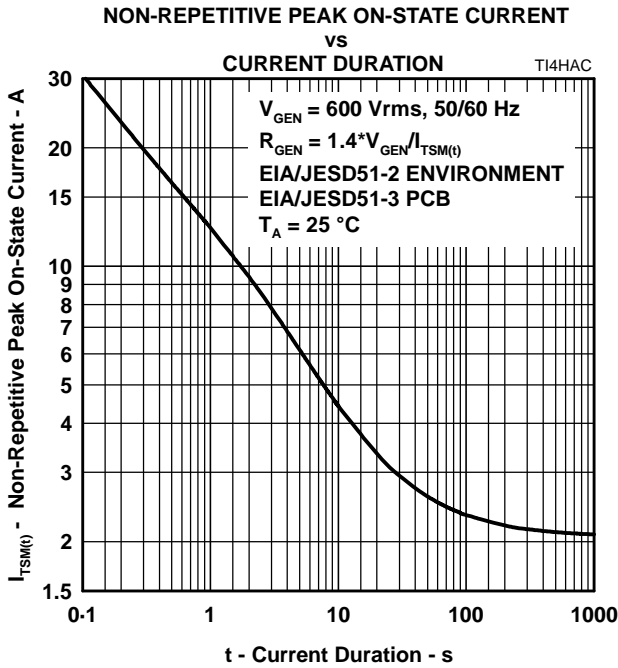

Figure 8.
5. EIA/JESD51-2 environment and EIA/JESD51-3 PCB with standard footprint dimensions connected with 5 A rated printed wiring track widths. See Figure 8 for the current ratings at other durations. Derate current values at $-0.61\text{ \%/}^{\circ}\text{C}$ for ambient temperatures above 25 °C .
The protector can withstand currents applied for times not exceeding those shown in Figure 8. Currents that exceed these times must be terminated or reduced to avoid protector failure. Fuses, PTC (Positive Temperature Coefficient) resistors and fusible resistors are overcurrent protection devices which can be used to reduce the current flow. Protective fuses may range from a few hundred milliamperes to one ampere. In some cases, it may be necessary to add some extra series resistance to prevent the fuse opening during impulse testing. The current versus time characteristic of the overcurrent protector must be below the line shown in Figure 8. In some cases, there may be a further time limit imposed by the test standard (e.g. UL 1459 wiring simulator failure).